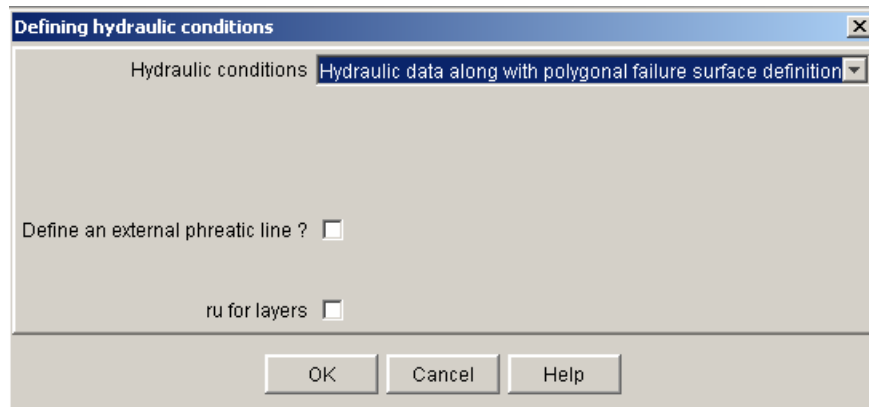

Figure 82: definition of hydraulic conditions:
- Hydraulic data along polygonal failure surfaces: the option "Hydraulic data along with polygonal failure surface definition" should be selected (Figure 82). This option cannot and should not be used except in the case of polygonal failure surfaces (it cannot be combined with circular failure surfaces or logarithmic spirals).